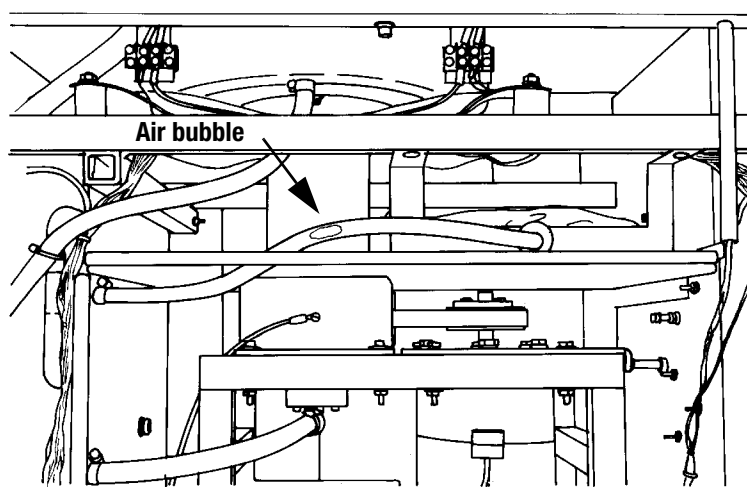

Figure 6-23: Air bubble returning to the reservoir bag
- 5 Open the right panel door of the COBE 2991. Observe the hydraulic fluid reservoir line for air bubbles returning to the hydraulic fluid reservoir bag (Figure 6-23), and do one of the following: